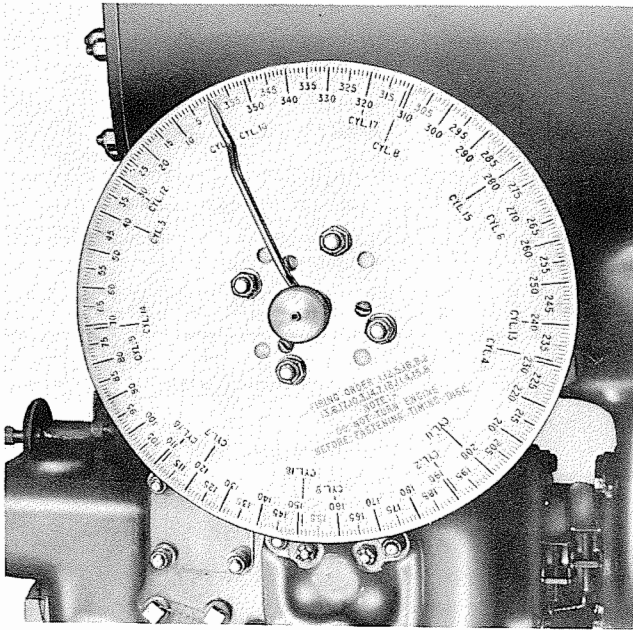

Figure 7-15. Timing Disc Installed on Fuel Pump Pad
c. Remove the fuel pump or substituting cover from the tachometer and fuel pump drive housing. Install timing disc 807890 on the fuel pump pad so that the zero degree mark is at the top of the disc. Secure with engine nuts and washers. Install the timing disc pointer in the fuel pump drive gear. See figure 7-15.